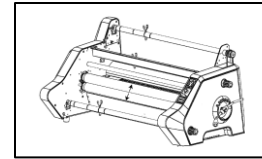

Figure 7b
9. **GAPPING:** Gaps the heated nip rollers and pull rollers allowing mounting boards to be fed for mounting applications. To adjust pull and rotate handle to desired position (Figure 7b).